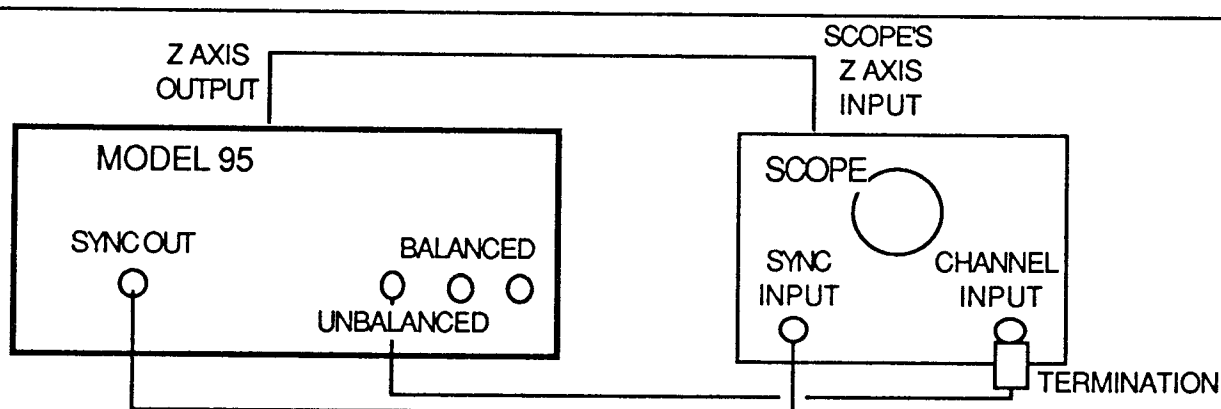
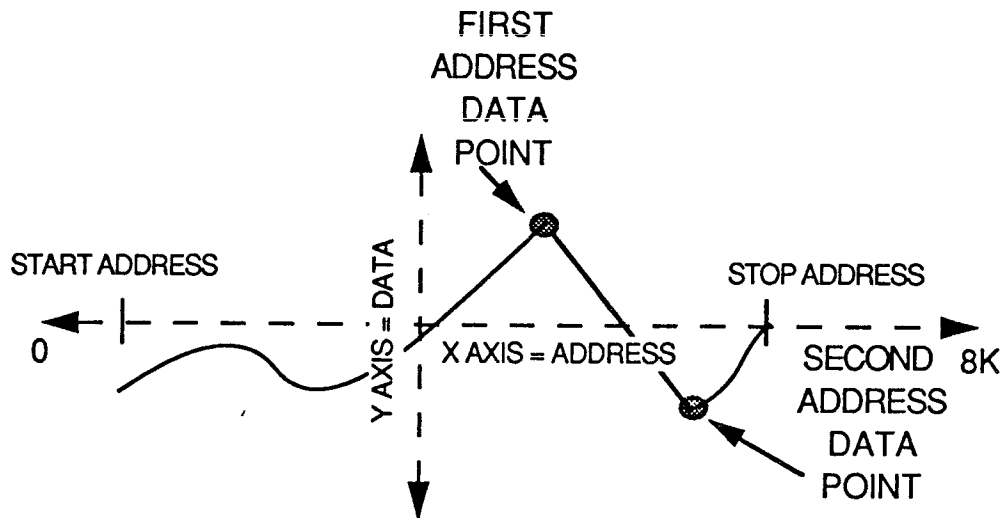

Figure 3-16. Arb Setup.
Figure 3-18. Line Edit
The best way to edit Arb waveforms requires an oscilloscope with a Z-Axis input. See figure 3-16.
Point edit technique defines waveforms by modifying a single point at a time. Only the point selected will be changed, other points are not affected. The easiest way to create or edit an Arb waveform is to connect the Model 95 to an oscilloscope; see figure 3-16.
After Power On (paragraph 3.5.2), use the following steps to set up Arb waveforms using the point edit method. First, connect the Model 95 and a Scope as illustrated in figure 3-16.
2. **Instrument Setup.** Connect the Model 95 and the Scope as illustrated in figure 3-16.
Line or two point edit method allows the user to develop waveforms by drawing a line between two points. The locations of the points are defined by addresses (X) and data (Y) entries. See figure 3-18 illustrates a line edit waveform. The horizontal line or X axis represents Arb addresses:0 to 8191 (32767 Option 002), and the vertical line or Y axis represents the Arb data (-2047 to +2047). The line edit method draws a line between the first address data point and the second address data point. The easiest way to create or edit an Arb waveform is to connect the Model 95 to an oscilloscope; see figure 3-16.
After Power On (paragraph 3.5.2), use the following steps to set up Arb waveforms the Model 95 using the line edit method. First, connect the Model 95 and a Scope as illustrated in figure 3-16.